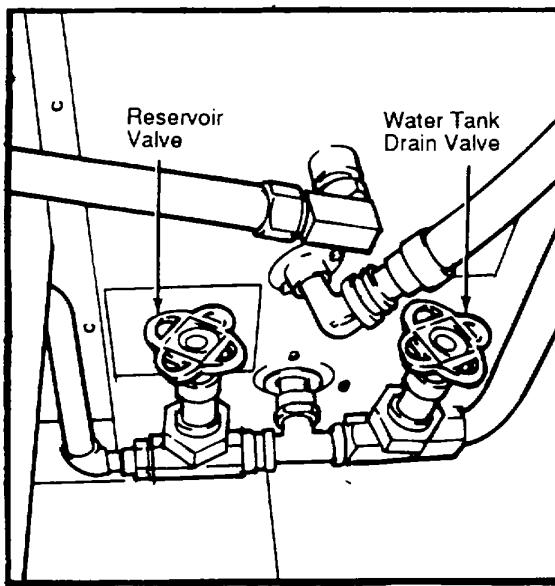

Figure 2-11. Reservoir and Water Drain Valves
- (3) Ensure the water tank drain and reservoir drain valves in the mechanical room are both closed and that exterior drains are closed (Figure 2-11).